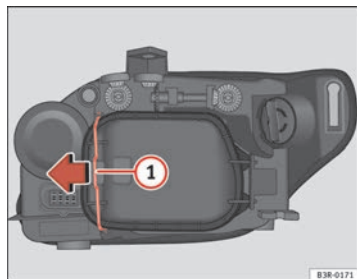

Fig. 222 Side light
Although it is not necessary, previously remove the rigid cover ⇒ page 276, fig. 222 for easier day light bulb changes. ■
- Move the brace ⇒ fig. 222 ① in the direction of the arrow and remove the rigid cover, separating the brace side and then removing the two tabs from the other end of the cover.